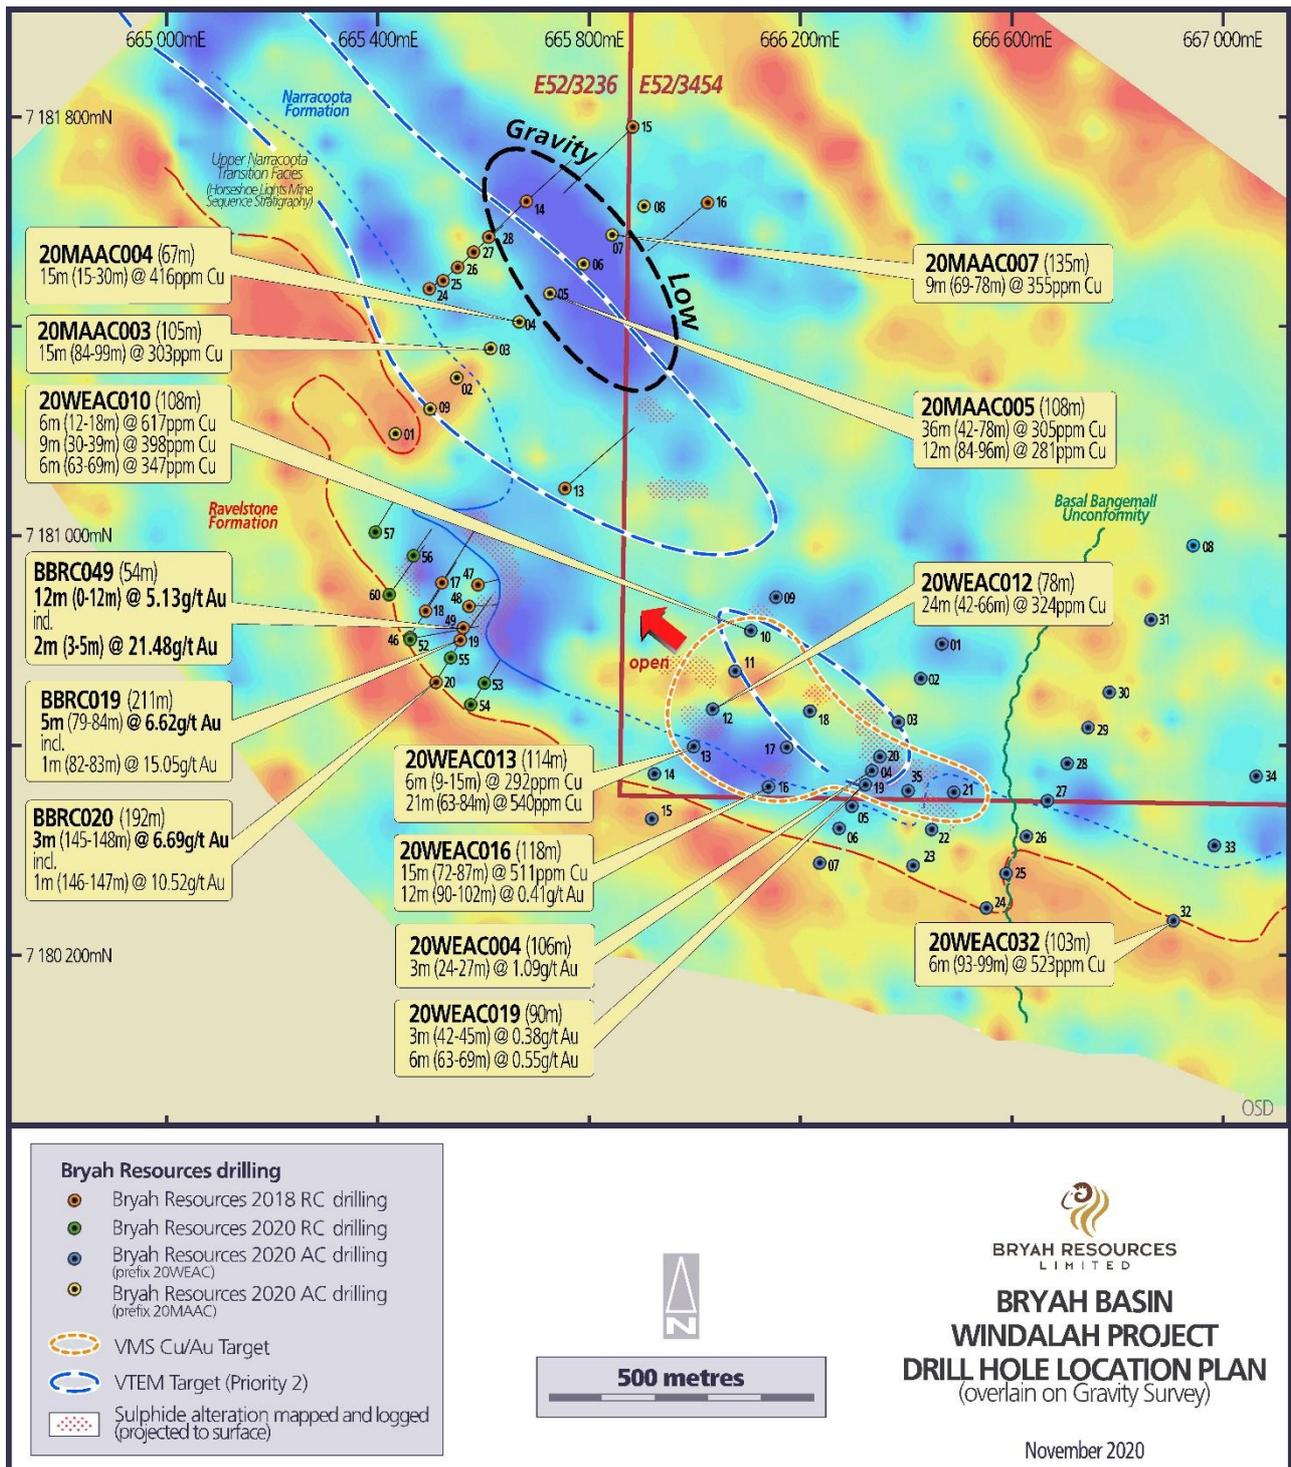

Figure 2 - Windalah Prospect - Drill Hole Location Plan.
This anomalous multi-element zone provides the Company with a coherent exploration target over a strike length exceeding 500 metres which is open to the north-west of the latest AC drilling. (see Figure 2). Coincidentally the anomalous zone is situated over an airborne electromagnetic (VTEM) target identified in 2018. These factors now provide the Company with an exciting bedrock target area to test with a program of deeper reverse circulation (RC) and/or diamond drilling.
Three metre composite samples from the drill holes have been assayed for a broad suite of elements. A summary of drill holes is shown in Table 4, and collar locations and anomalous copper and gold results are shown in Figure 2.